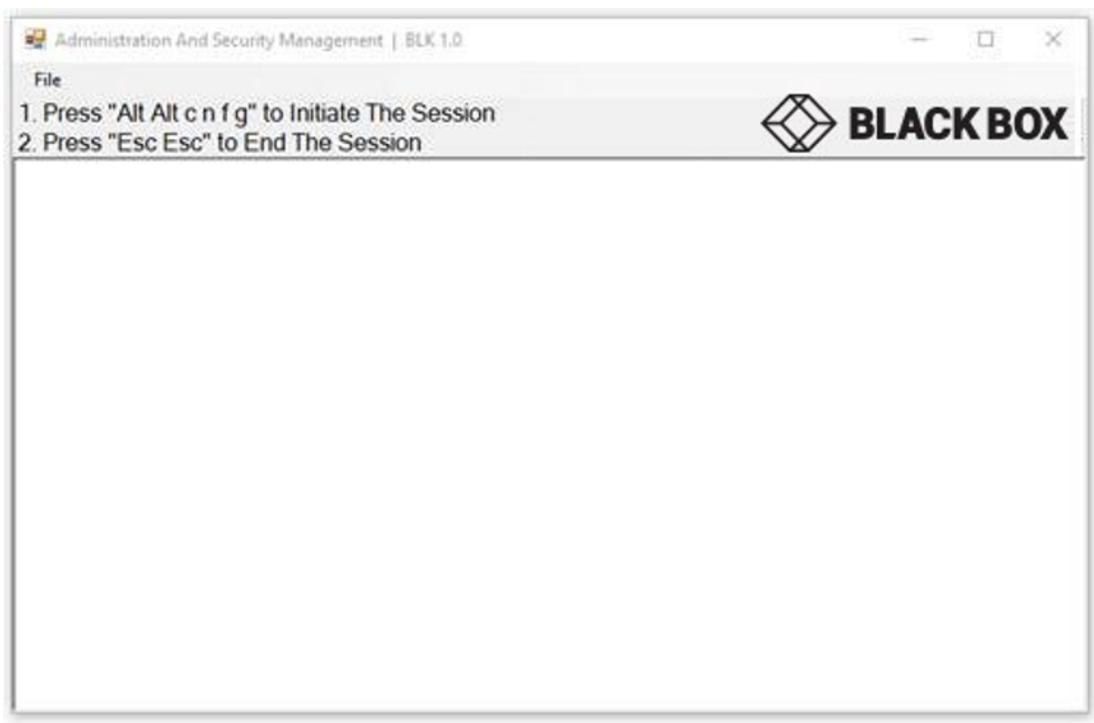

Figure 1: Administration and Security Management Tool
- Run the Administration and Security Management Tool executable file. Figure 1 below is a screenshot of the tool you should be seeing on your screen.